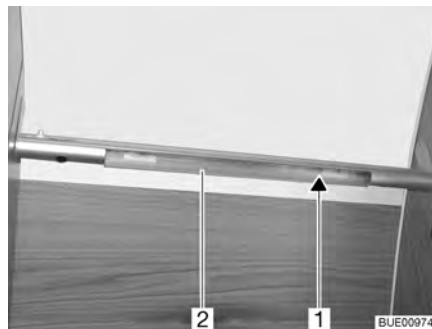

Fig. 212 Toilet light
- Squeeze cover (Fig. 212,2) lightly with both hands and pull downwards. Always start pulling at the very left or right end.
- Remove halogen bulb (Fig. 212,1).